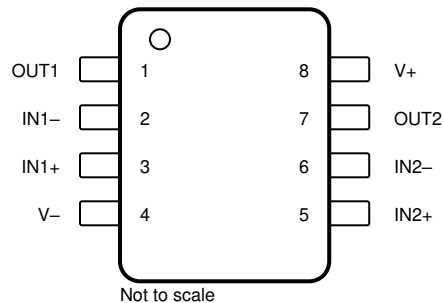

Figure 4-1. Pin Diagram (SOIC (8) and VSSOP (8) Packages)
4.1 SOIC (8) and VSSOP (8) Packages
Figure 4-1 shows the TLV9062-Q1 pin diagram for the SOIC (8) and VSSOP (8) packages. For a detailed description of the device pins please refer to the 'Pin Configuration and Functions' section in the TLV9062-Q1 data sheet.